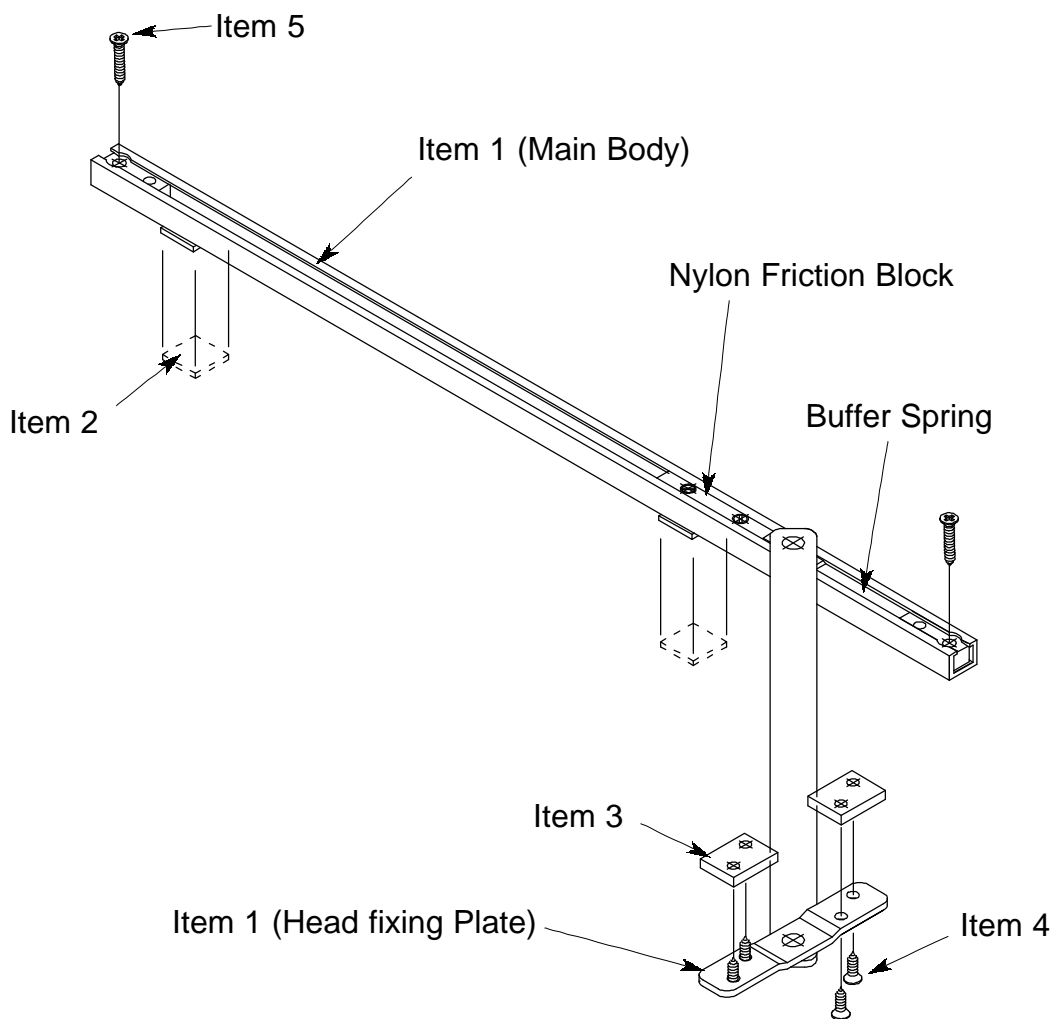

Fig.3.8.7a
- Open the restrictor up, as per figure 3.8.7a, and position the main restrictor body into the top channel of the top rail.